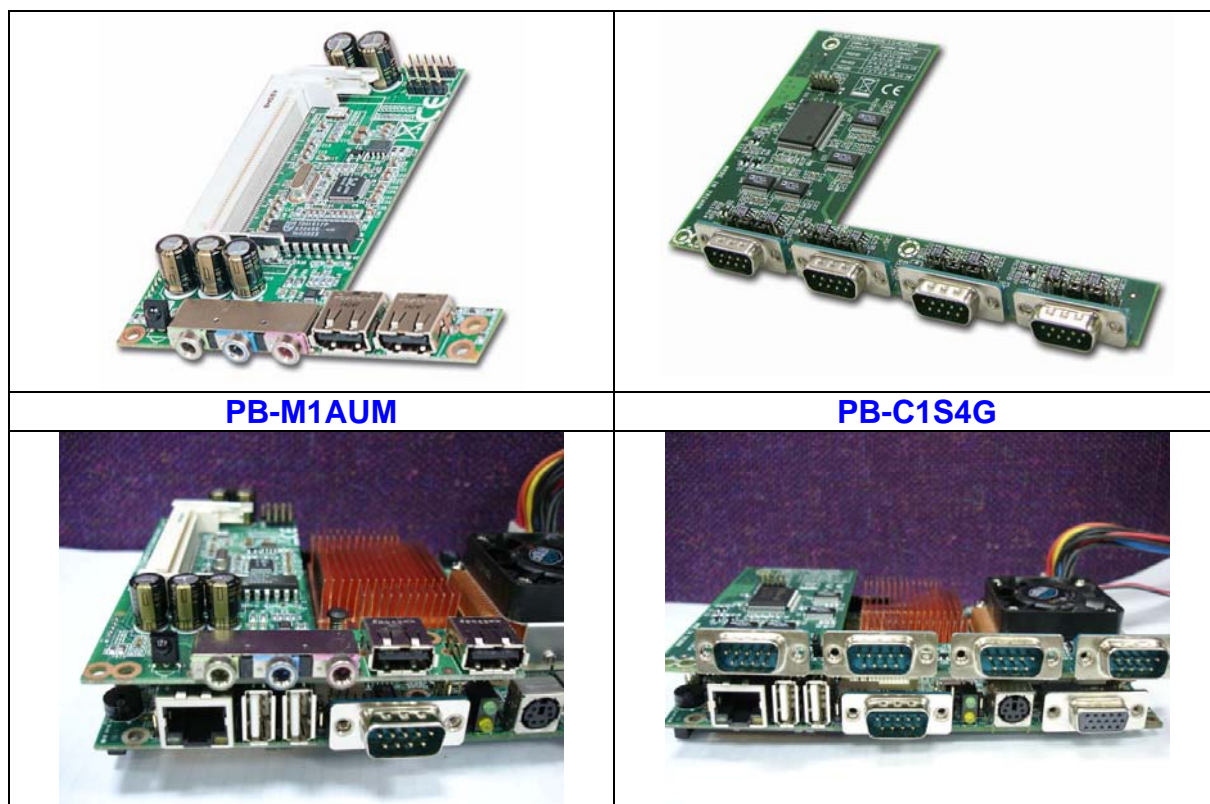

Figure 5-4
**A:** PEB-2310 /30 VL can add on extension module interface, just like PB-M1AUM or PB-C1S4G...etc.(See figure 5-4)